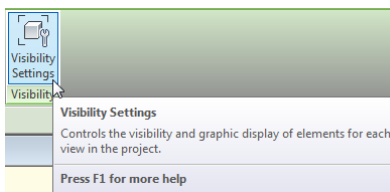

Figure 38
3. In Edit Group mode, select the nested shelf family instance onscreen. On the Modify | Generic Models tab, click the **Visibility Settings** button (see Figure 38).